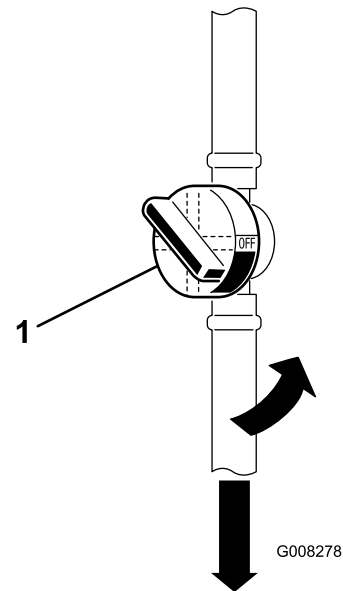

Figure 29
5. Close the fuel shut-off valve (Figure 29).
7. Squeeze the ends of the hose clamps together and slide them away from the old fuel filter (Figure 29).